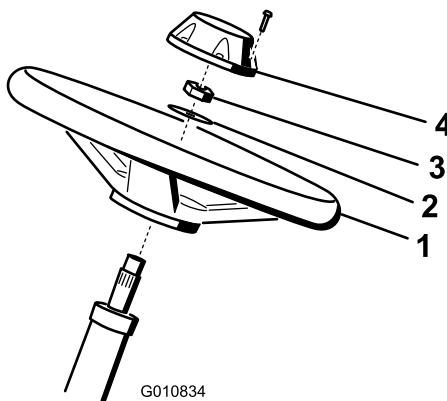

Figure 3
1. Slide the steering wheel onto the steering shaft (Figure 3).
2. Slide the washer onto the steering shaft (Figure 3).
- Secure the steering wheel to the shaft with a jam nut and tighten it to 27 to 35 N·m (20 to 26 ft-lb) (Figure 3).
- Install the cap to the steering wheel and secure it with a screw (Figure 3).